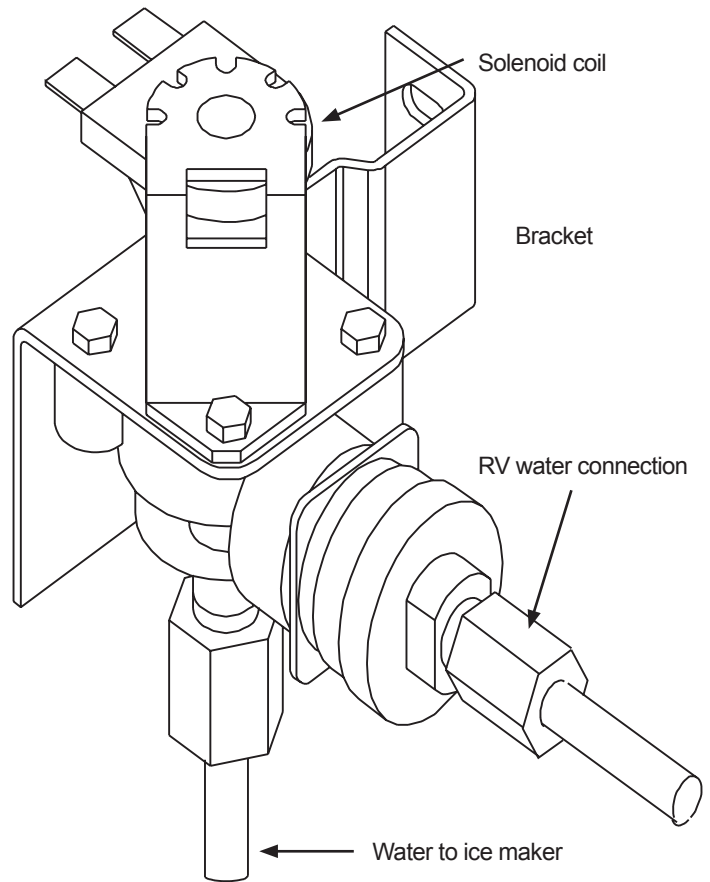
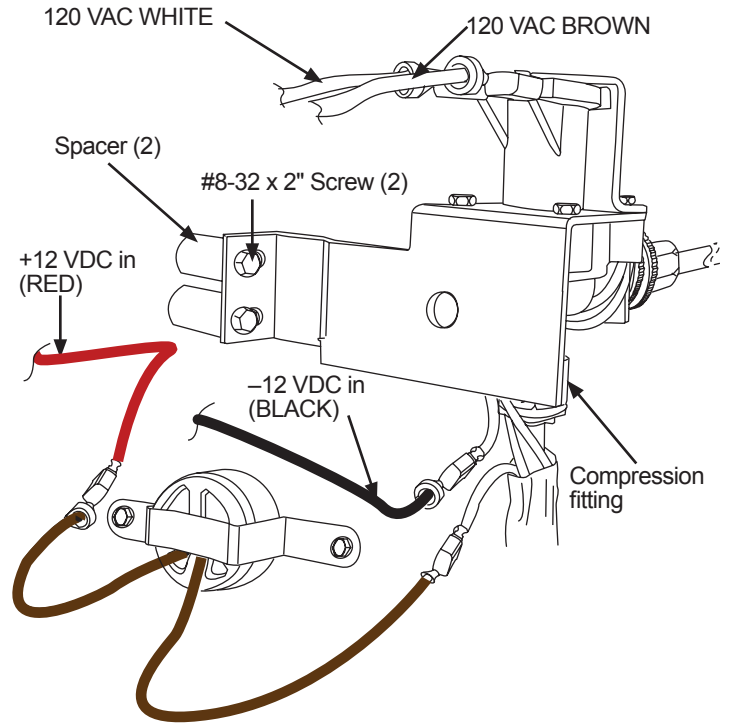

Figure 10-6. —Water valve and water connections.
Figure 10-7. —Water valve bracket and electrical connections.
The water valve, illustrated in Figure 10-6, is not a repairable component.
To remove the water valve proceed as follows and refer to Figure 10-6 and Figure 10-7 (page 81).
11. Reverse steps 10 through 1 and see Figure 10-6 and Figure 10-7 (page 81), to install the replacement water valve.